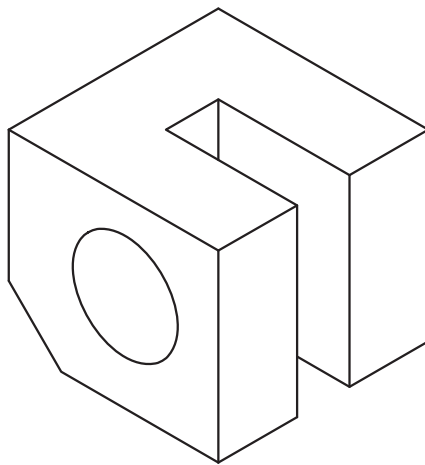

Fig. 38-9
- 1-3.** Create the machined parts shown in Figs. 38-9 through 38-11 using AutoCAD's isometric capability. Estimate their sizes.